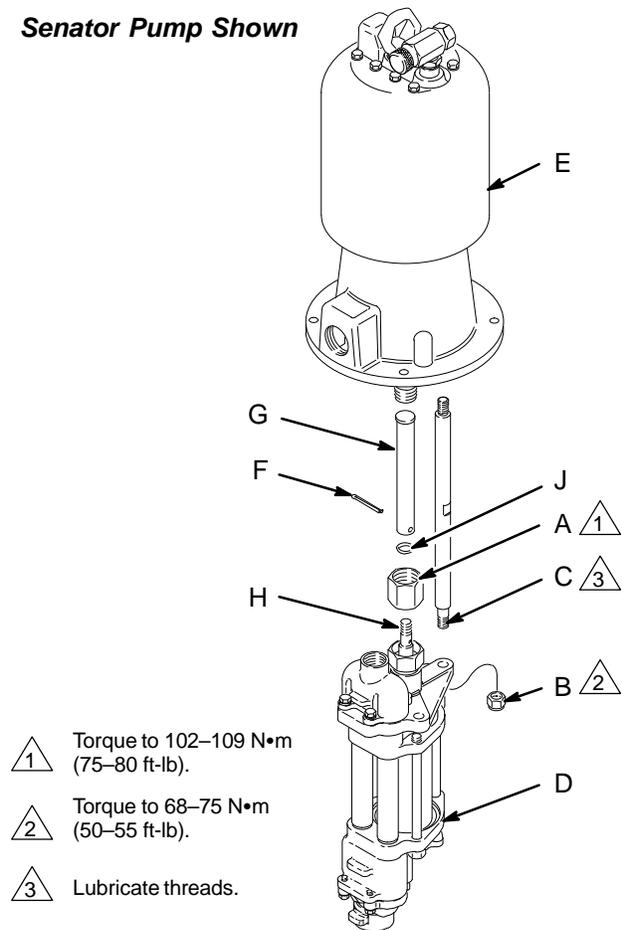

Fig. 7
- **For Senator and Bulldog pumps (Fig. 7):** Unscrew the coupling nut (A). Unscrew the locknuts (B) from the tie rods (C). Pull the displacement pump (D) off the motor (E). Remove the pin (F) and screw the coupling (G) off the piston rod (H).
- **For Senator and Bulldog pumps (Fig. 7):** Make sure the coupling nut (A) and o-ring (J) are in place on the coupling (G). Screw the coupling onto the piston rod (H) and install the pin (F). Orient the displacement pump (D) to the motor (E) as shown. Position the displacement pump (D) on the tie rods (C). Lubricate the threads of the tie rods. Screw the locknuts (B) onto the tie rods loosely. Screw the coupling nut (A) onto the motor shaft and torque to 102–109 N•m (75–80 ft-lb). Torque the tie rod locknuts to 68–75 N•m (50–55 ft-lb).
4. Remove the cotter pin (F). See Fig. 7 for Senator and Bulldog Pumps, and Fig. 10 for President and Viscount Pumps.
- *Senator and Bulldog Pumps:* See Fig. 7. Unscrew the coupling nut (A) from the motor shaft. Unscrew the coupling (G) from the piston rod (H). Set the coupling and coupling nut aside.
12. *Stainless Steel Pumps Only:* Install the o-ring (39†) on the throat cartridge (38), then screw the throat cartridge into the upper pump housing (1). Torque the throat cartridge to 135 N•m (100 ft-lb).
13. Torque the packing nut (21) to 34–40 N•m (25–30 ft-lb).
- *Senator and Bulldog Pumps:* See Fig. 7. Make sure the coupling nut (A) and o-ring (J) are in place on the coupling (G). Screw the coupling onto the piston rod (H). Screw the coupling nut (A) onto the motor shaft and torque to 102–109 N•m (75–80 ft-lb).